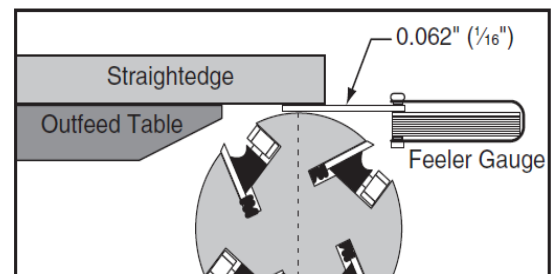

Figure 12
4. Place straightedge on outfeed table so it extends over cutterhead, lower outfeed table until straightedge is 0.062" (1/16") above cutterhead body, as determined by using a feeler gauge (Figure 12), then tighten outfeed table lock.